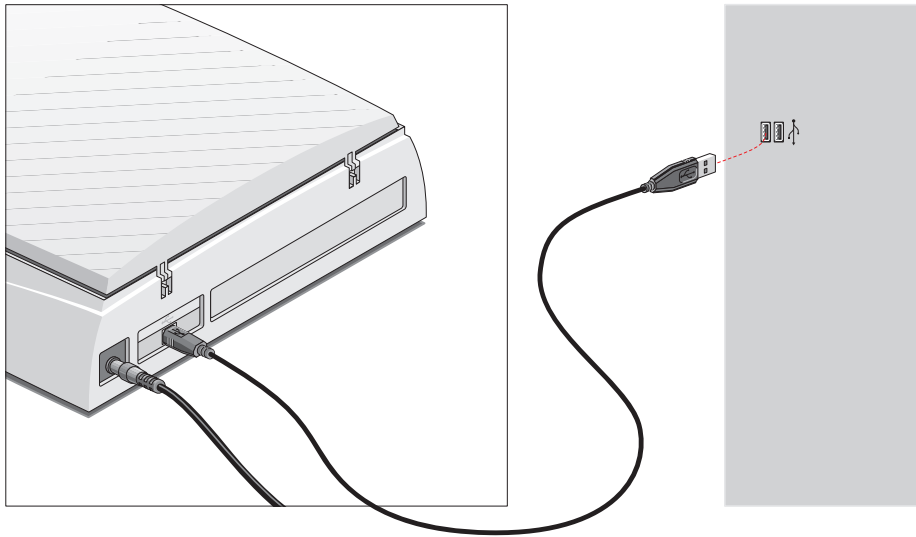

Figure 3
4. Connect the other end of your USB cable to a USB port on your computer. Make sure you connect it to the correct socket as shown in Figure 3. The USB port is labeled with the USB icon . Windows 98 will detect the scanner and will install the necessary files for the scanner hardware driver.